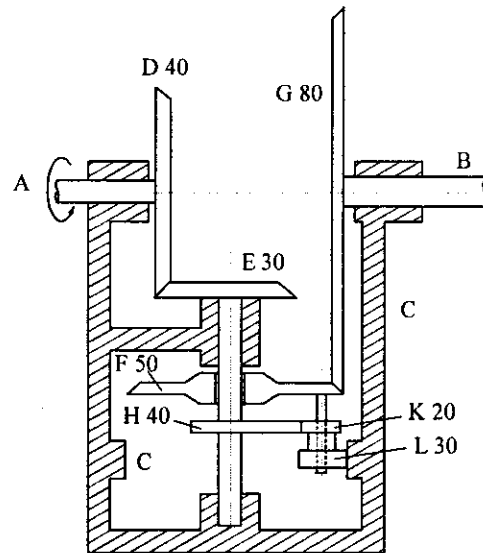

Fig. 7.47
7. In the gear train shown in fig. 7.47, A is the driving shaft which rotates at 270 rpm in the anti clockwise direction (viewed from left). The casing (which is an annular wheel C) is fixed. Gear E and H are keyed to the vertical shaft on which F is free to rotate. Compound gears K and L are rigidly connected to the pin carried by F. The number of teeth on each gear is indicated in the figure. Determine the speed at the output shaft B. [Ans. 90 rpm]